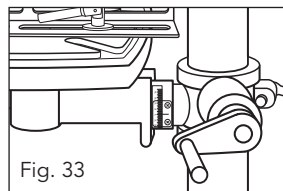

Fig. 33
2. Set the drill table to the desired position with the help of the table adjustment handle (22) (Fig. 33).